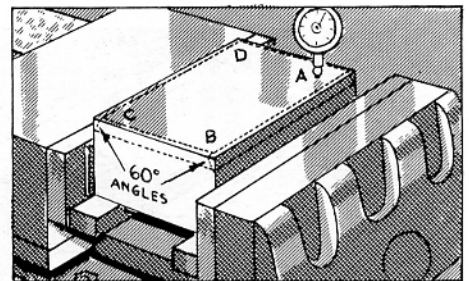

FIG. 406
4. Indicate the work at all four points: A, B, C, and D (Fig. 406).